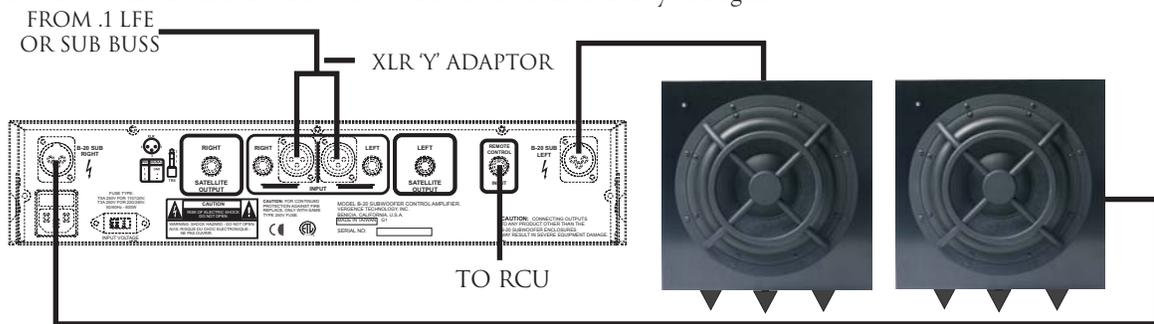

Fig. 6 Typical Stand Alone Hookup
- As a stand alone subwoofer for a surround system; i.e., as a .1 or LFE (low frequency effects) channel (FIG. 6);